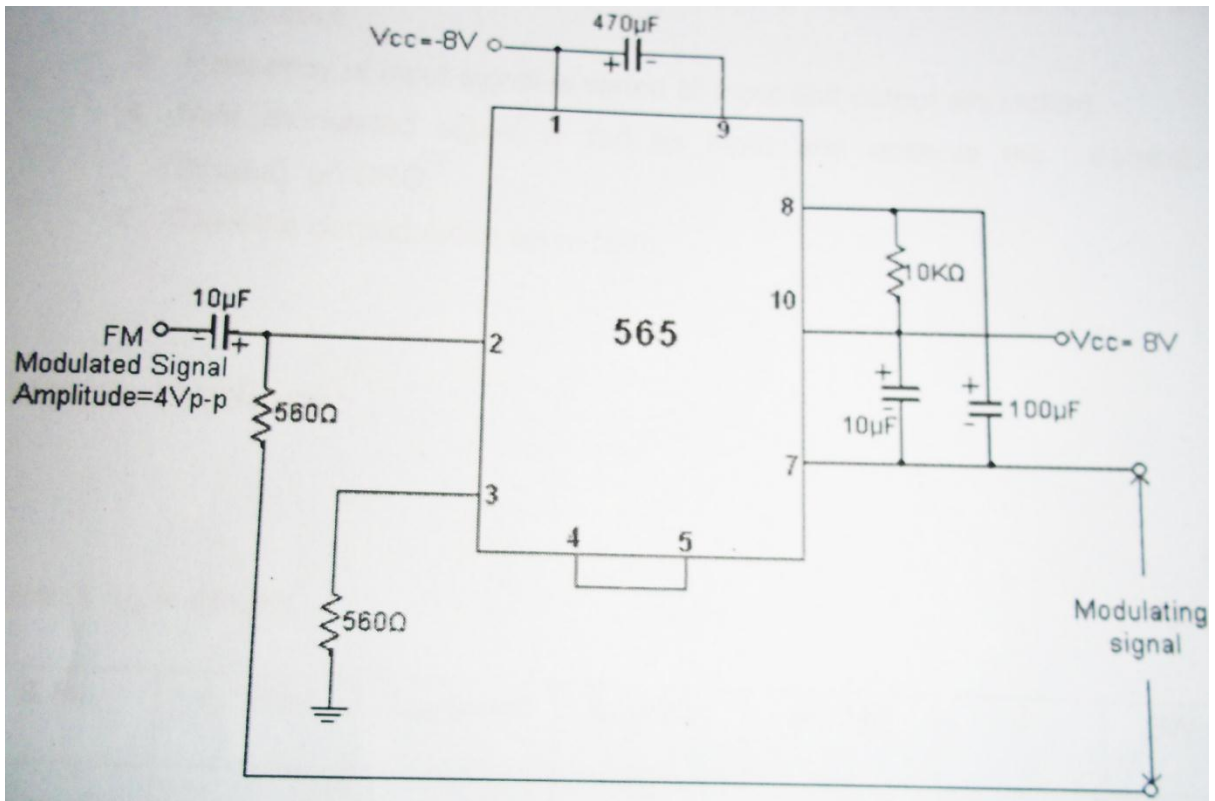

Fig. 3. FM Demodulator Circuit
1. Connections are made as per circuit diagram shown in Fig.3.